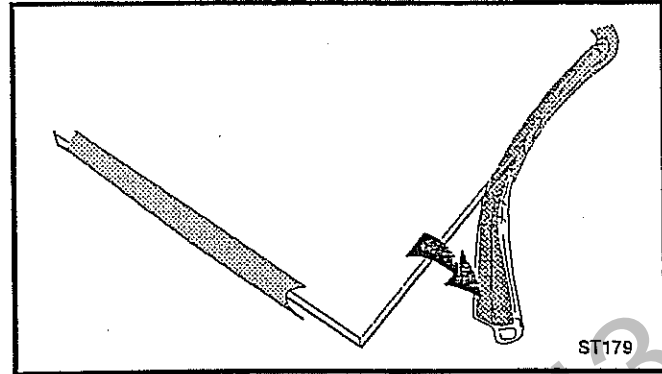

Fig. 69 Wrap the gasket material around the outside edge of the glass.
1. Remove the Front, Glass Frame and Glass Panel. (Figs. 67-68) Remove the old gasket. (Fig. 69) Use a razor blade to separate the glass and gasket from the frame, and to clean the glass of any remaining cement or bits of gasket. Use a cold chisel if necessary.
3. Starting on a long edge, remove about 6" of the protective paper strip and apply the flat adhesive face of the gasket around the outside-facing edge of the panel. Continue around the panel, applying about 6" at a time and being careful to not stretch the material. Do not overlap the gasket ends. (Fig.69)